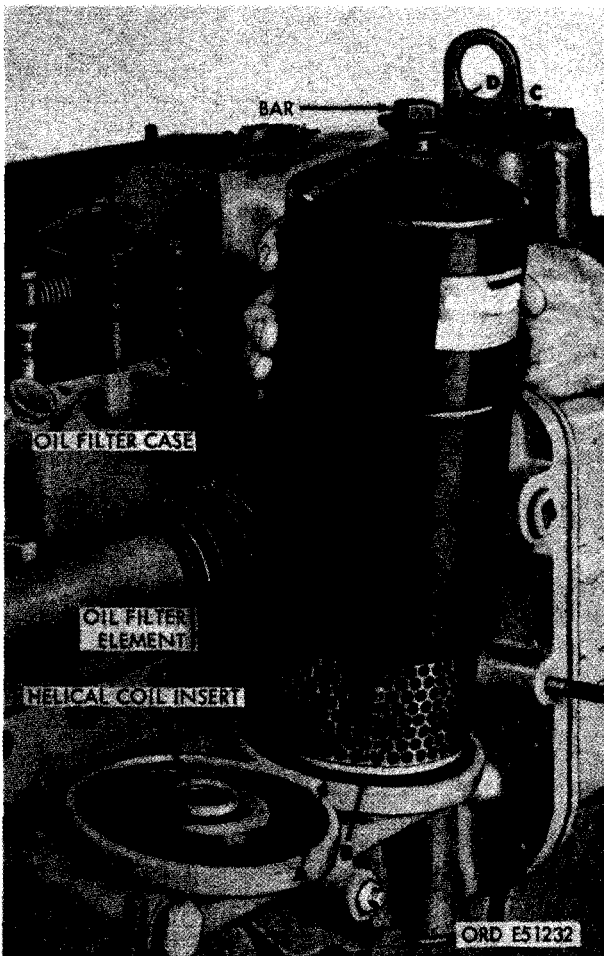

FIGURE 492. INSTALLING OIL FILTERS.
**a. Install Oil Filters.** Figure 492. (A) Position rear oil filter case gasket in the recess provided in oil cooler and oil filter housing. (B) Position rear oil filter element on housing. (C) Position rear oil filter case over element and start bar threads into helical coil threaded insert in oil cooler and oil filter housing. (D) Secure rear oil filter case by tightening bar to a torque of 60 pound feet. Case must be properly seated against case gasket.